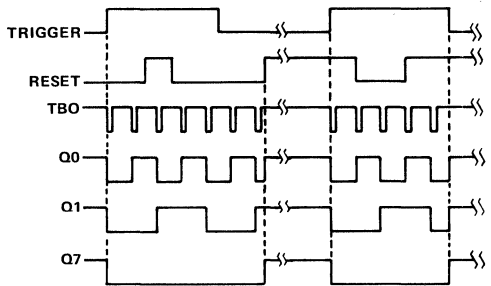

FIGURE 5—TIMING DIAGRAM OF OUTPUT WAVEFORMS
Figure 5 shows voltage waveforms for typical operation of the uA2240C. If both reset and trigger inputs are low during power-up, the timer/counter will be in a reset state with all binary (Q) outputs high and the oscillator stopped. In this state, a high level on the trigger input starts the time-base oscillator. The initial negative-going pulse from the oscillator sets the Q outputs to low logic levels at the beginning of the first time-base period. The uA2240C will ignore any further signals at the trigger input until after a reset signal is applied to the reset input. With the trigger input low, a high level at the reset input will set Q outputs high and stop the time-base oscillator. If the reset signal occurs while the trigger input is high, the reset is ignored. If the reset input remains high when the trigger input goes low, the uA2240C will reset.